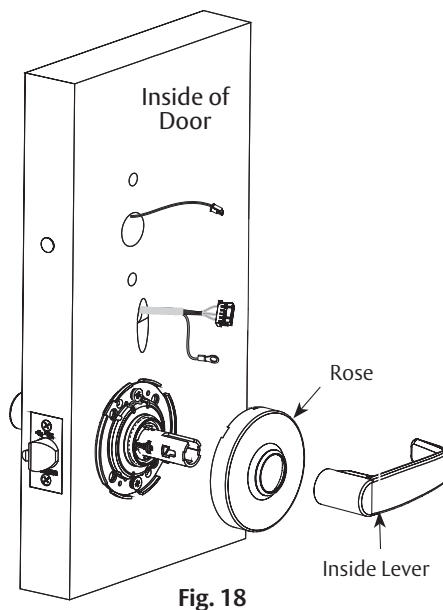

Fig. 18
- c. Secure rose assembly with two (2) #10-32 x 1-1/4" through-bolts.
- d. Secure latch by fully tightening two (2) #6 x 3/4" self-tapping screws (refer to previous 3. Install latchbolt).
- a. Verify spacer bushing is inserted horizontally and aligned with lever. (Fig. 18)